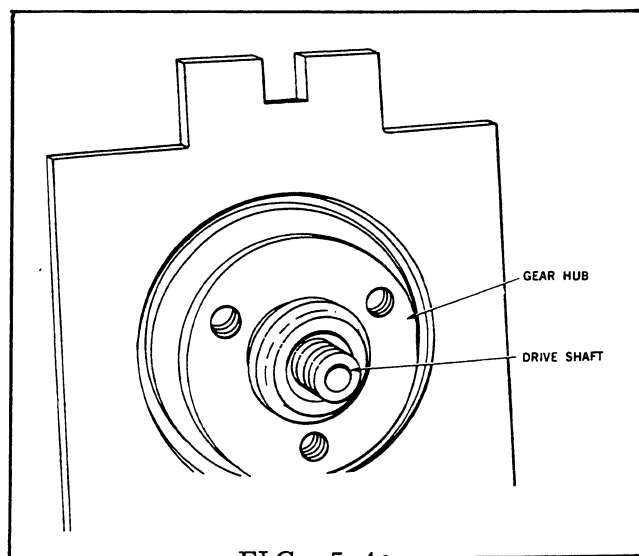

FIG. 5.4a
**STEP 4** Assemble the gear hub to the drive shaft, with the notched portion of the gear hub in line with the drive shaft roll pin (Fig. 5.4a).